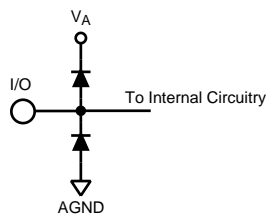

Figure 2.
- (1) The inputs are protected as shown below. Input voltage magnitudes above  $V_A$  or below GND will not damage this device, provided current is limited per Note 4 of the Absolute Maximum Ratings Table. However, errors in the A/D conversion can occur if the input goes above 2.6V or below GND as described in the Operating Ratings section. See Figure 2.
- (2) With a full scale differential input of  $2V_{P-P}$ , the 12-bit LSB is  $488\text{ }\mu\text{V}$ .
- (3) Typical figures are at  $T_A = 25^\circ\text{C}$  and represent most likely parametric norms at the time of product characterization. The typical specifications are not ensured.
- (4) This parameter is specified in units of dBFS - indicating the value that would be attained with a full-scale input signal.
- (2) With a full scale differential input of  $2V_{P-P}$ , the 12-bit LSB is 488  $\mu\text{V}$ .
- (2) With a full scale differential input of  $2V_{P,P}$ , the 12-bit LSB is 488  $\mu\text{V}$ .
- (2) With a full scale differential input of  $2V_{P-P}$ , the 12-bit LSB is  $488\ \mu\text{V}$ .
- (4) This parameter is specified by design and/or characterization and is not tested in production.